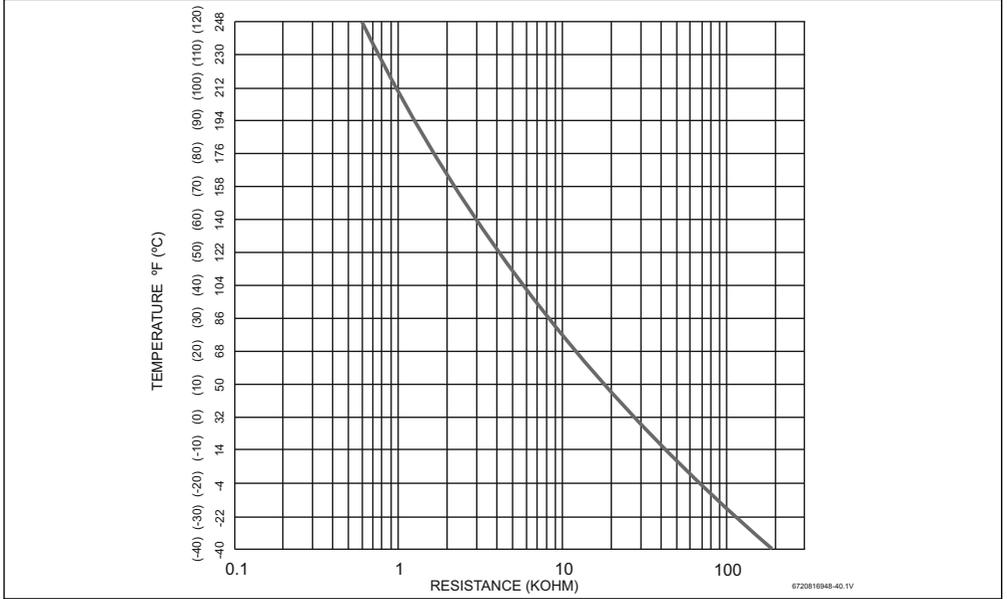

Fig. 49 Outlet / Inlet and heat exchanger immersion sensor characteristics
- 2) see temperature resistance charts in fig. 49 and 50.